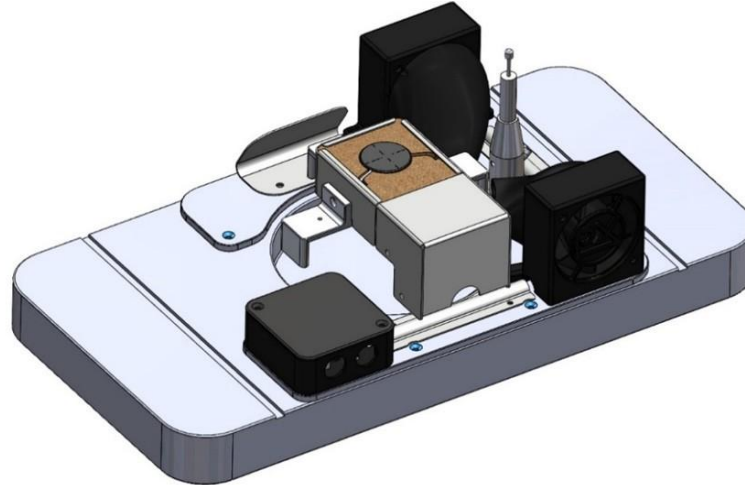
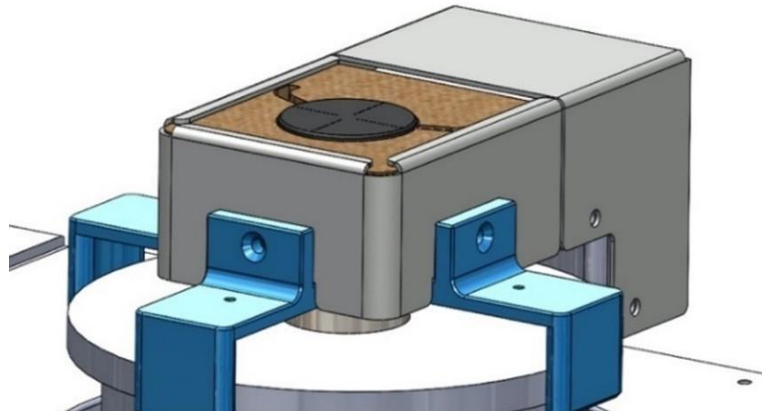

Figure 3.3 Installation of the PLX-HotStage base plate
Figure 3.4 Installation of the PLX-HotStage heater assembly on the load cell.
- 3.5. Insert the PLX-HotStage base plate with fans and LVDT into the PLX-Benchtop workspace from the rear, in the orientation shown in Figure 3.3. Fix down the base plate with the three countersunk head M3 bolts provided. The clearance holes are highlighted in blue in Figure 3.3. Place the heater assembly on the load cell using the legs highlighted in blue in Figure 3.4.